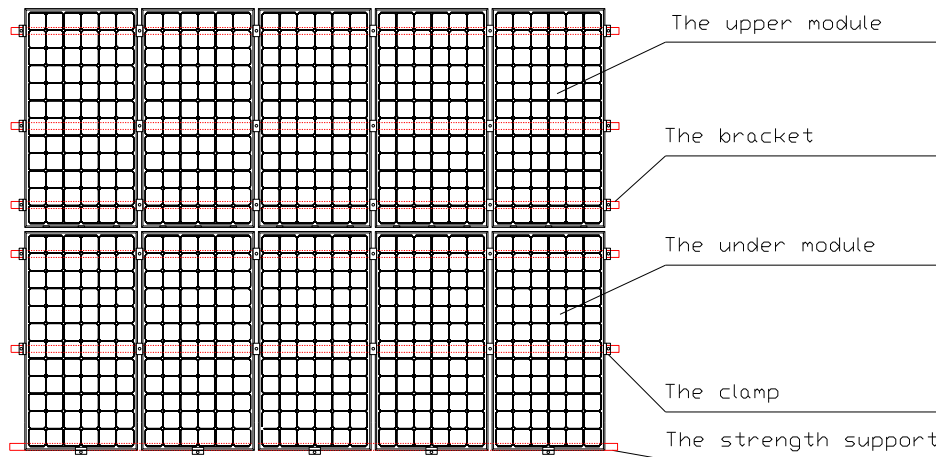

FIG 3 Schematic diagram of reinforcement mounting of module
- Notice: For the roof system installed in the area that ever experienced relatively heavy snowfall or snow cover, the customer shall reinforce the mounting system at the lower frame of the module, in order to prevent the lower frame from being pressed and damaged by the falling snow, and avoid the module damage due to melt snow freezing in daytime. VSUN suggests to selecting the support reinforcing mechanism shown in Figure 3.